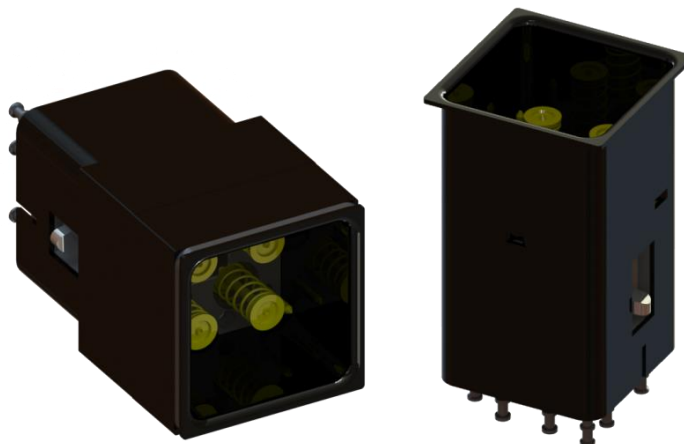

Figure 1: Model 91 "Coded" – Solder Version Shown
- Model 91 "Coded" Switch or indicator assemblies without pushbuttons (short housings with solder, PCB or crimp pin terminations). The crimp pin termination can be selected if it is used in a matrix assembly (Figure 1: Model 91 "Coded" – Solder Version Shown)